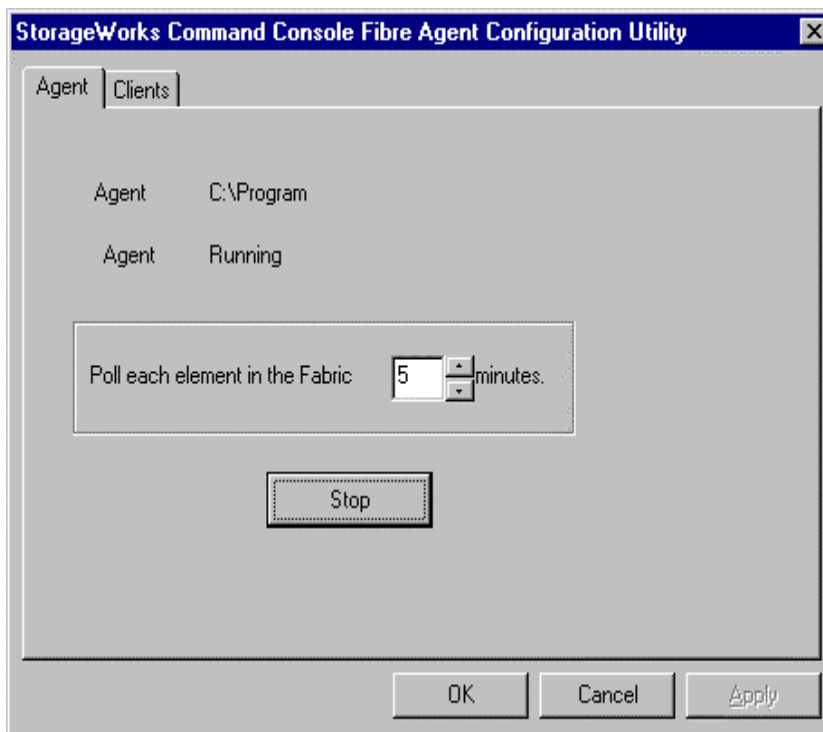

Figure 3-3. SWCC fibre channel agent configuration window - *Agent* tab selected
1. Click the Fibre Agent Configure entry in *Start|P*rograms|*S*torageWorks. The StorageWorks Command Console Fibre Agent Configuration utility window appears (Figure 3-3).
1. Click the Fibre Agent Configure entry in *Start|Programs|StorageWorks*. The StorageWorks Command Console Fibre Agent Configuration utility window appears (Figure 3-3).